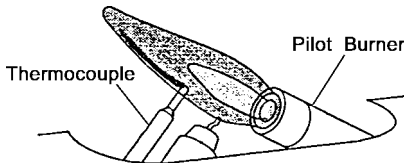
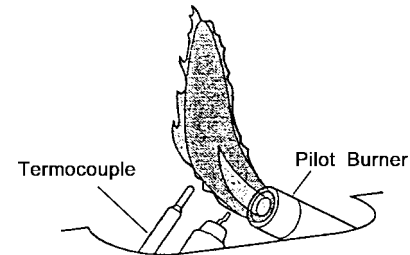

Figure 18 - Correct Pilot Flame Pattern
Figure 19 - Incorrect Pilot Flame Pattern
3. Push in control knob slightly and turn clockwise ↻ to the OFF position.(see Figure 19)
Figure 18 shows a correct pilot flame pattern. Figure 19 shows an incorrect pilot flame pattern. The incorrect pilot flame is not touching thermocouple. This will cause the thermocouple to cool. When the thermocouple cools, the heater will shut down. If pilot flame pattern is incorrect, as shown in Figure 19.